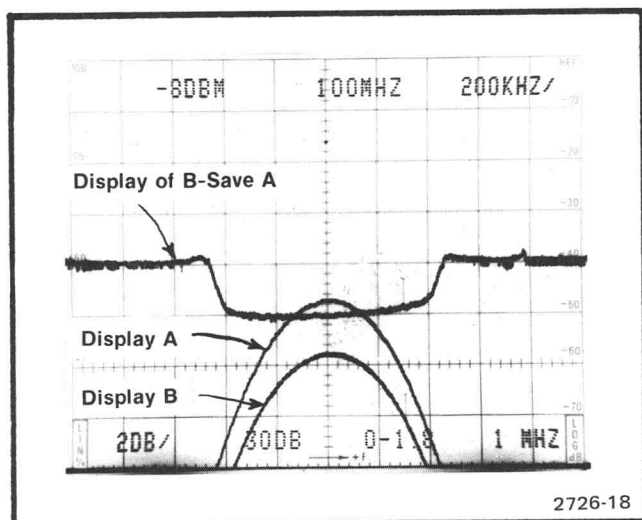

Fig. 3-17. Multiple exposure to illustrate how the differential between two signals can be measured.
d. Activate B—SAVE A. Check that B—SAVE A display is the algebraic difference between display B and Display A (see Fig. 3-17).